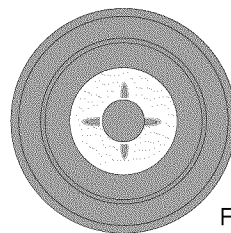

Fig. 3
5. Adjust the inner flame to desired size -*Fig. 3.*